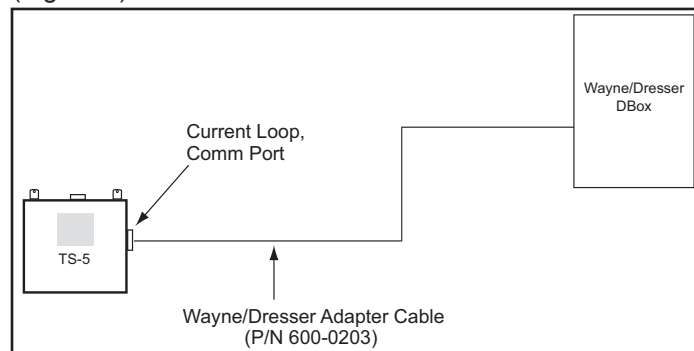

Figure 1: Connecting to Wayne/Dresser - Typical Installation
1. Plug the Wayne Dispenser Interface Cable (p/n 600-0203) into the TS-5 series CURRENT LOOP communication port (Figure 1).